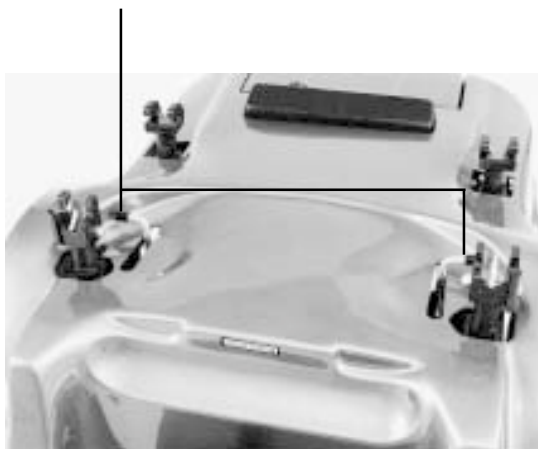

Figure 9. Drive Disengaged
For your convenience, your Jazzy 1100 is equipped with two freewheel levers. See figures 9 and 10. These levers allow you to disengage the drive motors and maneuver the chair manually.
1. Turn the freewheel levers outward to disengage the drive motors. See figure 9.